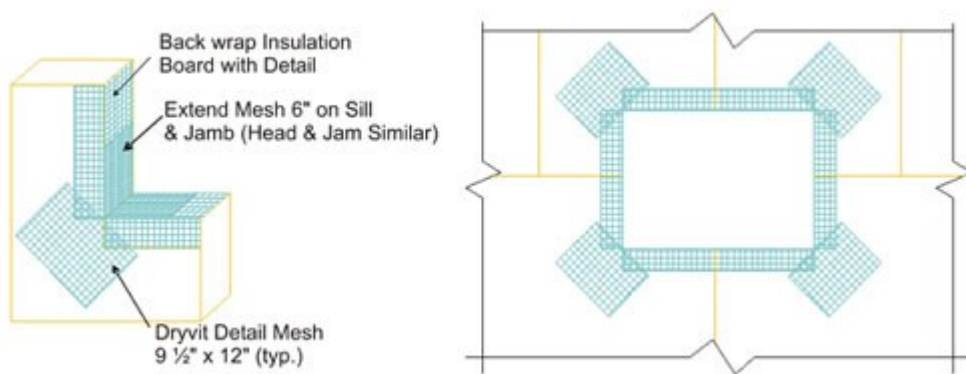

Fig. 10: Rough Openings
- 18) Corners of all openings such as windows, doors, mechanical equipment and all penetrations shall be reinforced with Detail Mesh placed diagonally to the opening as illustrated in Figure 10.